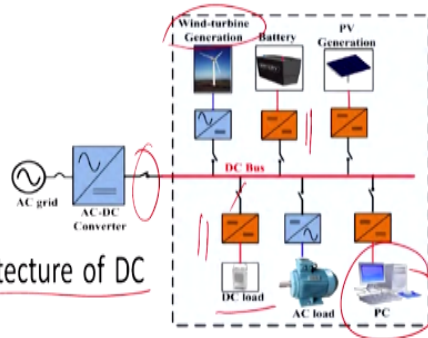

Fig.1 Radial architecture of DC microgrid system.
- A single line diagram of the radial DC microgrid system is shown in Fig.1, where a number of RES, ESS and loads (both AC and DC) are connected to the DC bus.
So, this is the configuration, though I have a drawn drawing a straight line, ultimately it can be drawn in a circular type. The single line diagram of the radial DC microgrid system is shown in figure 1. There are a number of RES that is renewable energy resources and the energy storage delivered, so you have a DC to DC, AC to DC conversion and thus you got an islanding or the grid connected mode. You have a wind turbine generation, thus you can convert DC and fit to the DC grid.